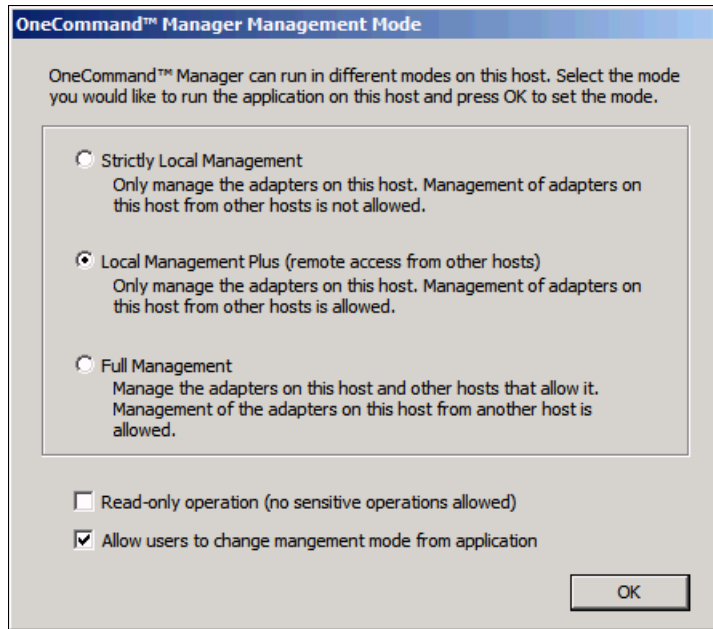

Figure 7-26 OneCommand Manager Management Mode options
6. After the installation process completes, in the Management Mode dialog box (Figure 7-26), choose the management mode you want. For our example, we selected **Local Management Plus**. Then click **OK**.